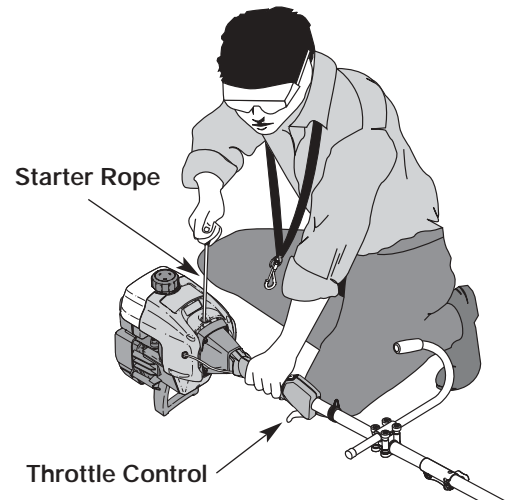

Fig. 18
WARNING: Avoid accidental starting. Make sure you are in the starting position when pulling the starter rope (Fig. 18). To avoid serious injury, the operator and unit must be in a stable position while starting.
5. While the unit is in the starting position (Fig. 18), **DO NOT SQUEEZE THE THROTTLE CONTROL**. Pull the starter rope briskly 5 times, making sure the EZ-Start™ lever is pushed to the left. If the engine starts to run before the fifth pull, proceed to step 6.
1. Release your hand from the throttle control (Fig. 18). Allow the engine to cool down by idling.